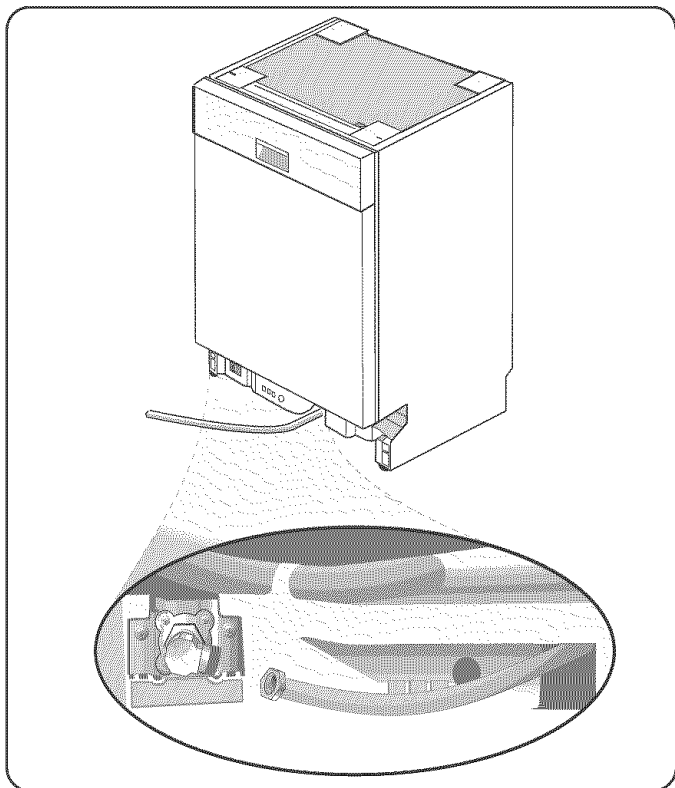

Figure 13
**NOTE:** The 90° elbow fitting is **not** supplied with the dishwasher, and must be purchased separately. If the dishwasher's hot water supply line is to be copper tubing, make certain the elbow has a compression fitting. Apply Teflon tape or other pipe sealant when required. Orient the hot water supply connection leg of the elbow toward the channel opening in the dishwasher base. See **Figure 13**.